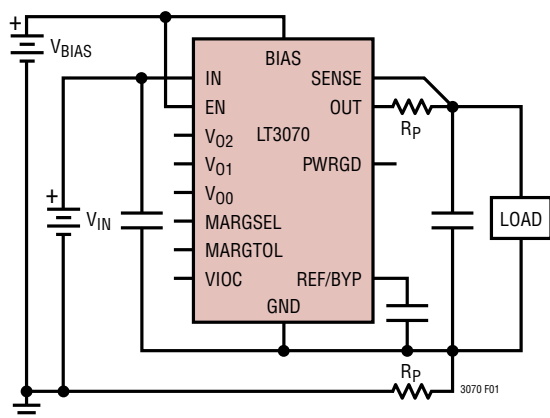

Figure 1. Kelvin Sense Connection
**SENSE (Pin 19):** Kelvin Sense for OUT. The SENSE pin is the inverting input to the error amplifier. Optimum regulation is obtained when the SENSE pin is connected to the OUT pins of the regulator. In critical applications, the resistance ( $R_P$ ) of PCB traces between the regulator and the load cause small voltage drops, creating a load regulation error at the point of load. Connecting the SENSE pin at the load instead of directly to OUT eliminates this voltage error. Figure 1 illustrates this Kelvin-Sense connection method. Note that the voltage drop across the external PCB traces adds to the dropout voltage of the regulator. The SENSE pin input bias current depends on the selected output voltage. SENSE pin input current varies from 50 $\mu\text{A}$  typically at  $V_{OUT} = 0.8\text{V}$  to 300 $\mu\text{A}$  typically at  $V_{OUT} = 1.8\text{V}$ .